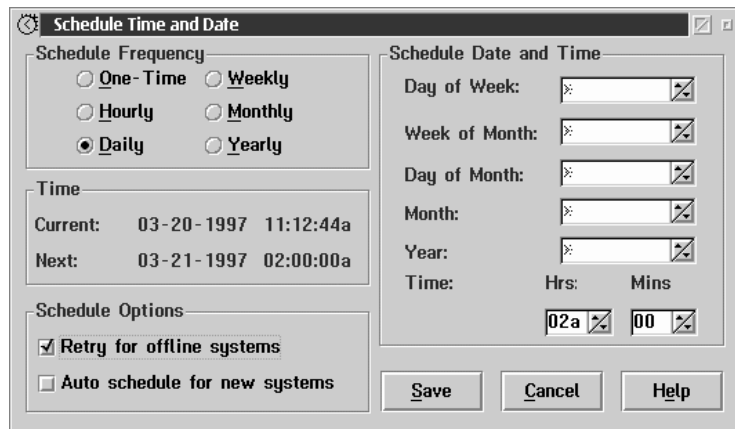

Figure 38. The Schedule Date and Time window
6. Enter any information required by the specific task that will be performed by the scheduled event. Then, select **Save** to save this information, close the task-specific window, and open the Schedule Time and Date window (see Figure 38 on page 120).